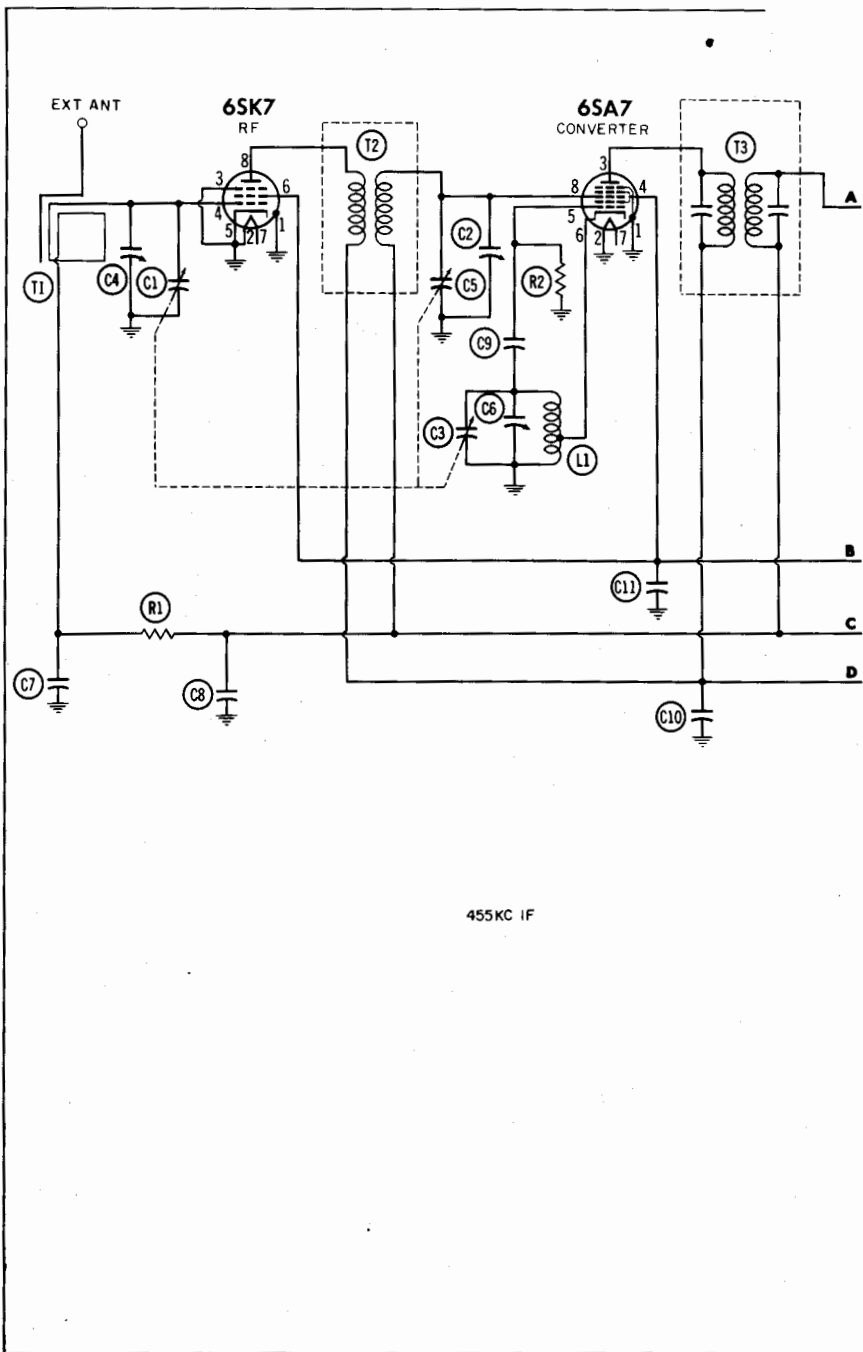

Fig. 10-3. Basic gain displays.
from an AM signal generator to the antenna-input terminals of the receiver, or couple the output via a small coil into the loop antenna. When the high-frequency probe of the scope is transferred from the grid to the plate terminal of an IF stage, for example, the comparative heights of the two displays give a measure of stage gain, as seen in Fig. 10-3.
An amplitude-modulated test signal is illustrated in Fig. 10-3. Modulation is necessary when using an ordinary signal tracer, but an unmodulated (CW) signal can be used when checking through the RF and IF circuits with a scope. Patterns appear in such a case as in Fig. 10-5. This photo shows individual IF cycles because the horizontal-deflection rate of the scope was suitably increased. A much lower deflection rate is used when displaying patterns such as are shown in Fig. 10-3. Internal sync is used to lock the pattern, in either case.